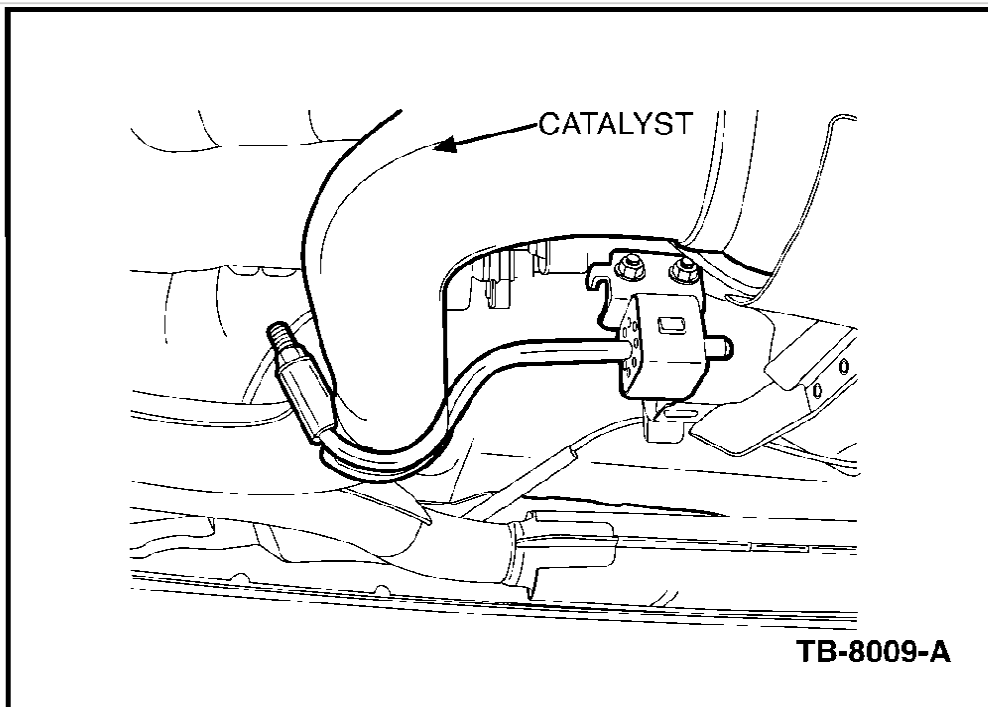

Figure 7
12. Loosely install the hanger rod and U-clamp around the catalyst pipe near the "Y" of the assembly (Figure 7).
15. Install the two (2) bolts that are included in the Kit and tighten to 18 lb-ft (25 N.m).